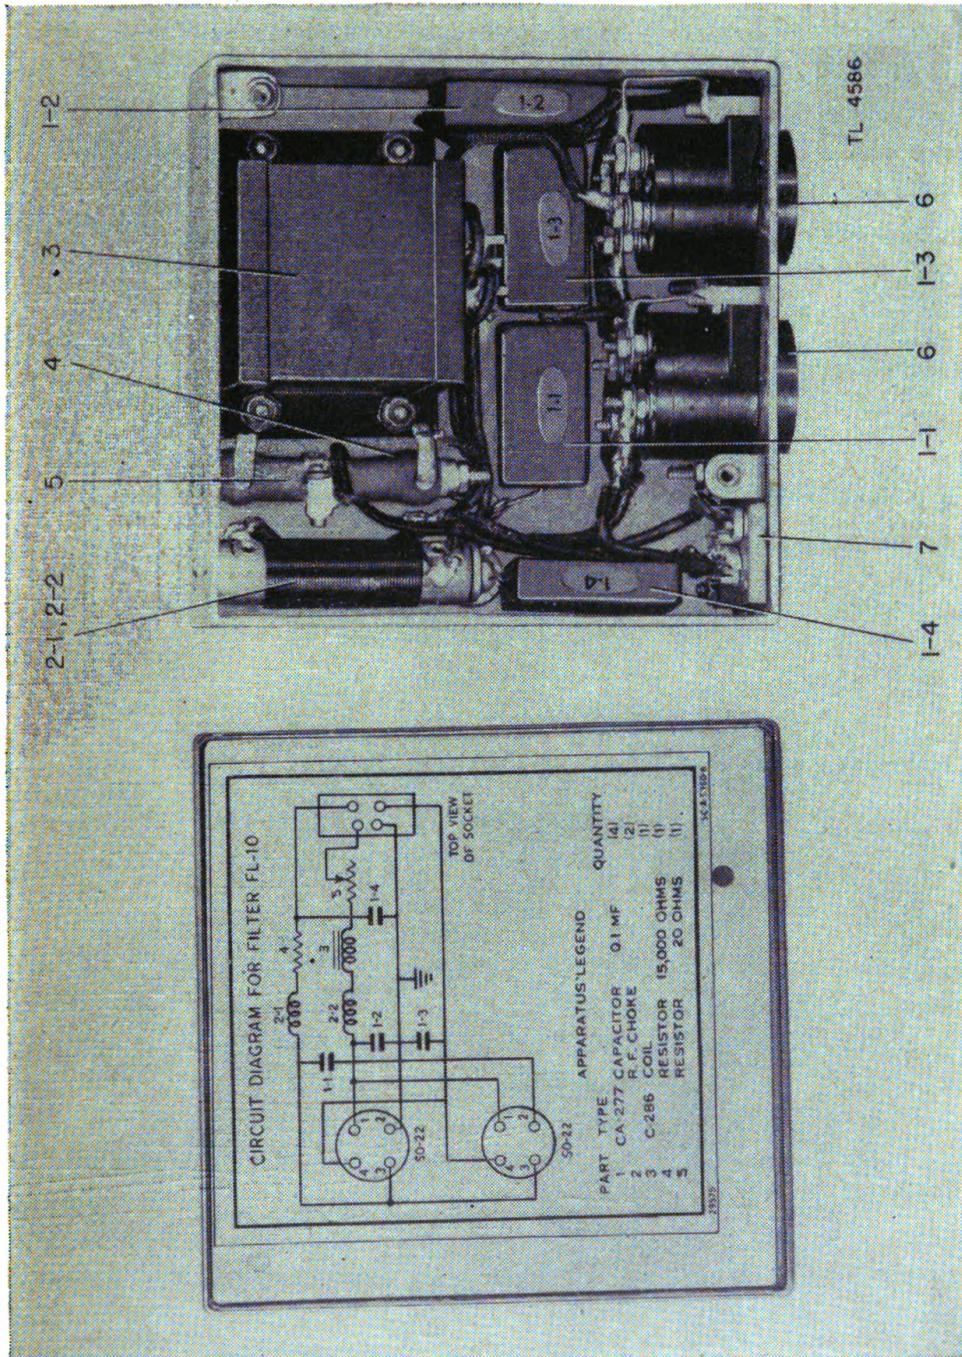

FIGURE 12.—Filter FL-10, cover removed.
c. The inside view of filter FL-10 is shown in figure 12.